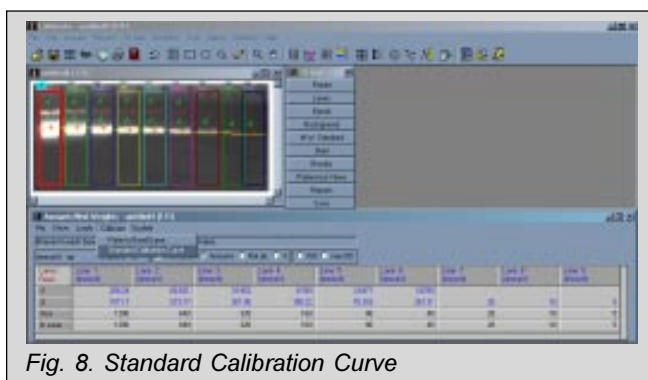

Fig. 8. Standard Calibration Curve
- Click on the Calibration menu in the Results Table menu (Fig. 8.). Select the "standard calibration curve" from the menu.